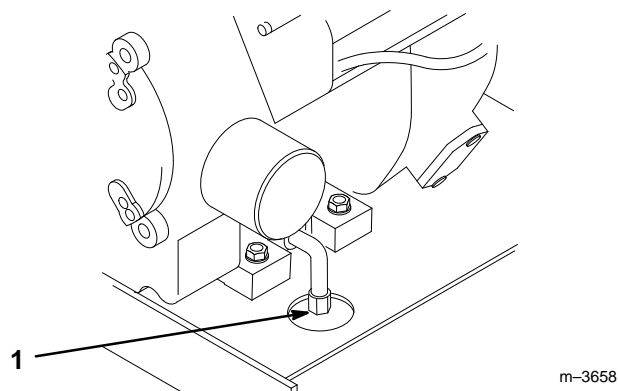

Figure 28
3. Place a pan below the oil drain. Remove the oil drain cap (Fig. 28).